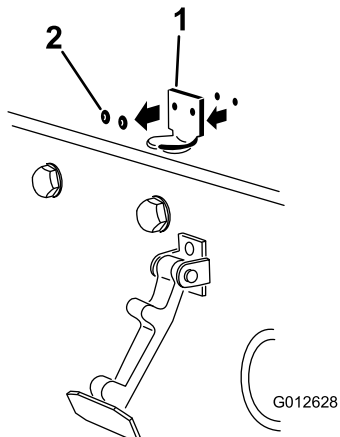

Figure 8
2. Remove the 2 rivets securing the hood-latch bracket to the hood (Figure 8).